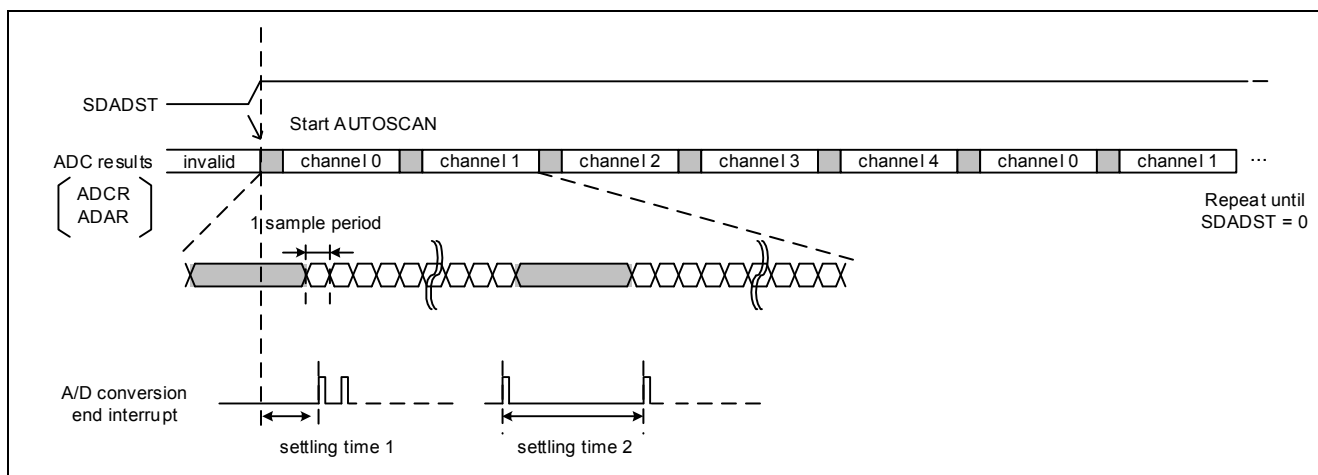

Figure 6. AUTOSCAN Sequence
- Settling time 1 — The time from ADC2.SDADST bit rising to A/D conversion end interrupt. See settling time 1 in Figure 6.
- Settling time 2 — The time from the last A/D conversion end interrupt before channel switching to the first A/D conversion end interrupt after channel switching. See settling time 2 in Figure 6.